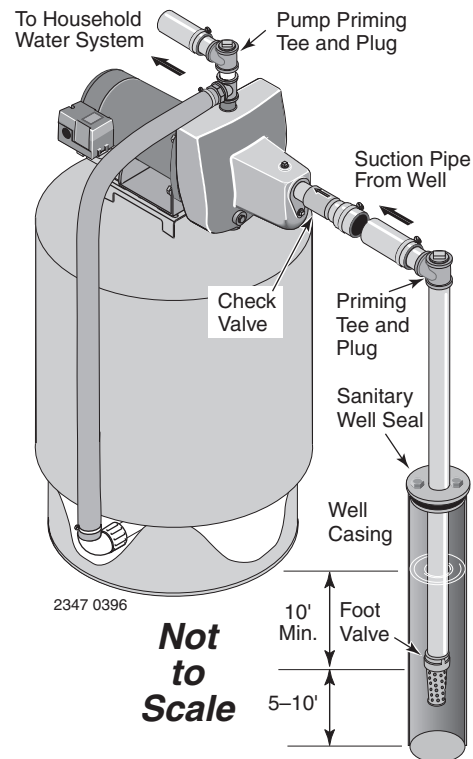

Figure 2: Cased Well Installation
CASED WELL INSTALLATION, 2" OR LARGER CASING (Figure 2)
- Step 2. Assemble the foot valve, strainer, and well pipe (see Figure 2). Make sure that the foot valve works freely.
- Step 4. Install a priming tee, priming plug, and suction pipe to the pump (see Figure 2). Connect the pipe from the well to the pump suction port, using the fewest possible fittings – especially elbows – as fittings increase friction in the pipe (however, include a foot valve – see Figure 2). The suction pipe should be at least as large as the suction port on the pump. Use teflon tape or a teflon-based pipe joint compound on threaded pipe joints. Support the pipe so that there are no dips or sags in the pipe, so it doesn't strain the pump body, and so that it slopes slightly upward from the well to the pump (high spots can cause air pockets which can air lock the pump). Seal the suction pipe joints with teflon tape or a teflon based pipe joint compound. Joints must be air- and water-tight. *If the suction pipe can suck air, the pump cannot pull water from the well.*